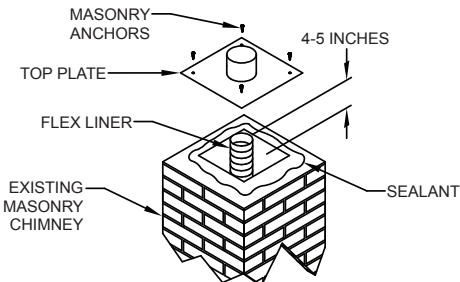

Figure 13
Step 1. When terminating your Flex installation, ensure the Flex protrudes 4-5 inches over the top of the masonry chimney (*Figure 13*). If necessary, trim the base of the Top Plate to fit the masonry chimney.
Step 2. Slide the Top Plate over the Flex and seal the Top Plate to the masonry chimney using a bead of non-hardening sealant around the top of the chimney to prevent moisture intrusion (*Figure 13*).